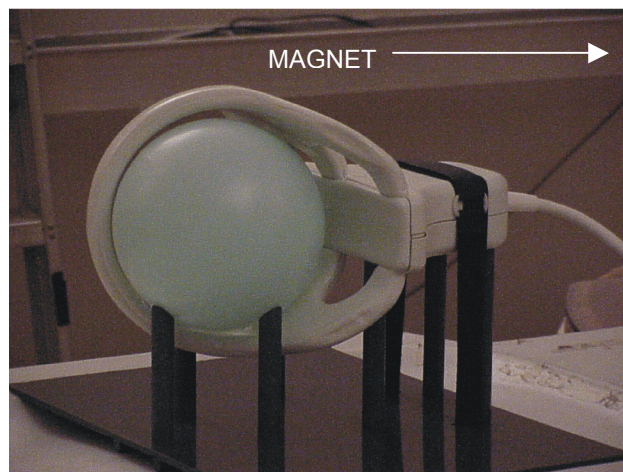

Figure 8: Positioning the phantom.
4. Place the coil on the positioner (see *Figure 8*).